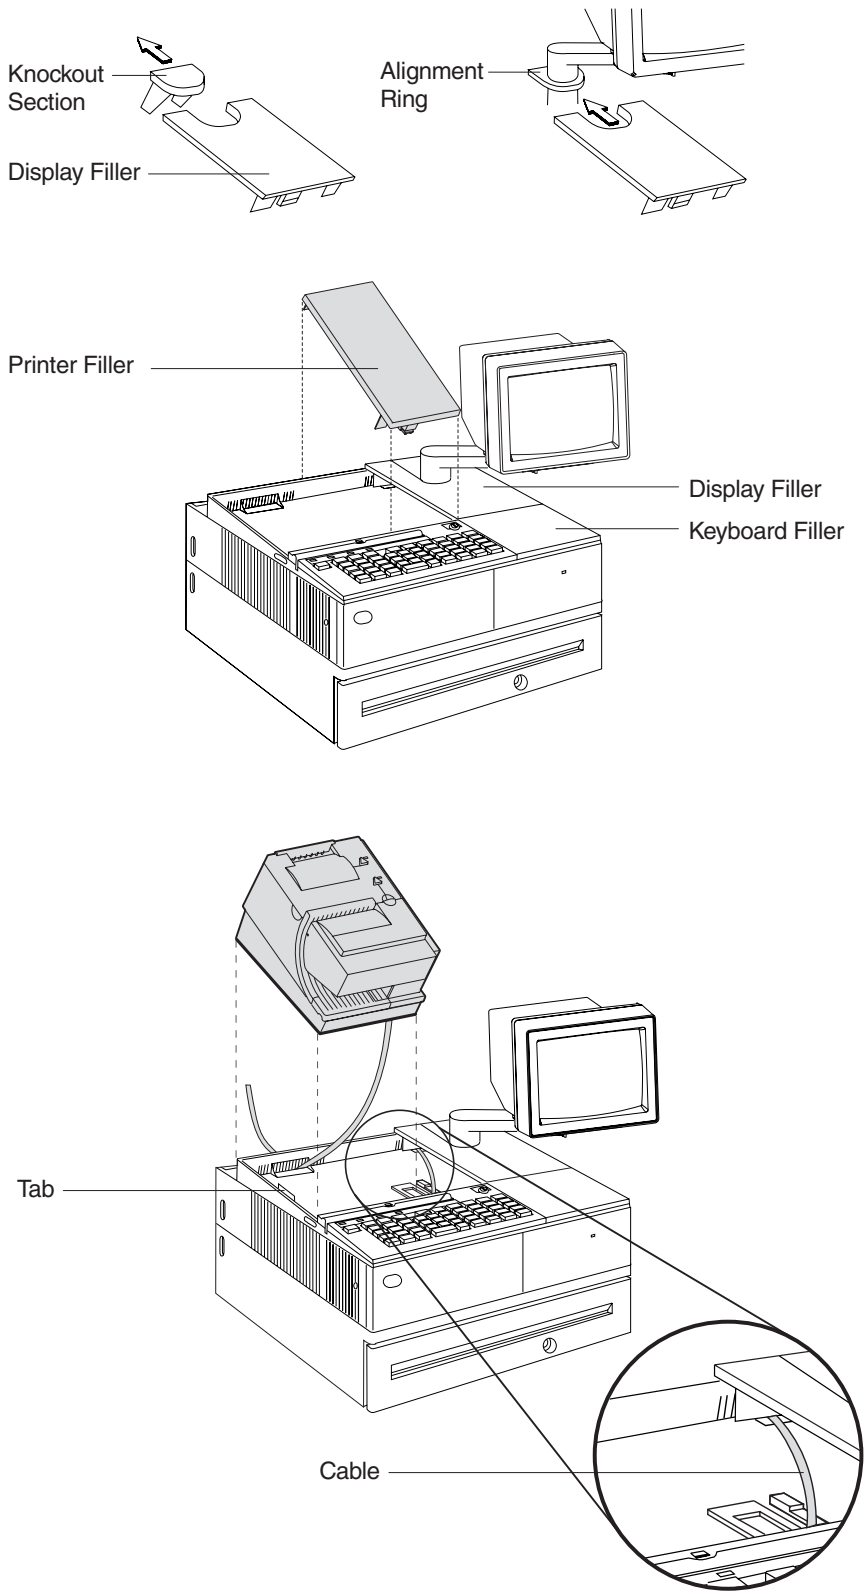

Figure 13. Installing the Fillers for USB Systems. (SurePOS 700 Series system is shown as an example.)
2. Place the display filler appropriate for the video display on the system unit. **Do not remove** the knockout section unless you have an integrated video mount. See Figure 13 on page 22.
3. If you have a short keyboard, place the keyboard filler beside the keyboard. See Figure 13 on page 22.
4. Place the printer filler beside the display filler. **Make sure you route the keyboard cable to the side, as shown in Figure 13 on page 22.**